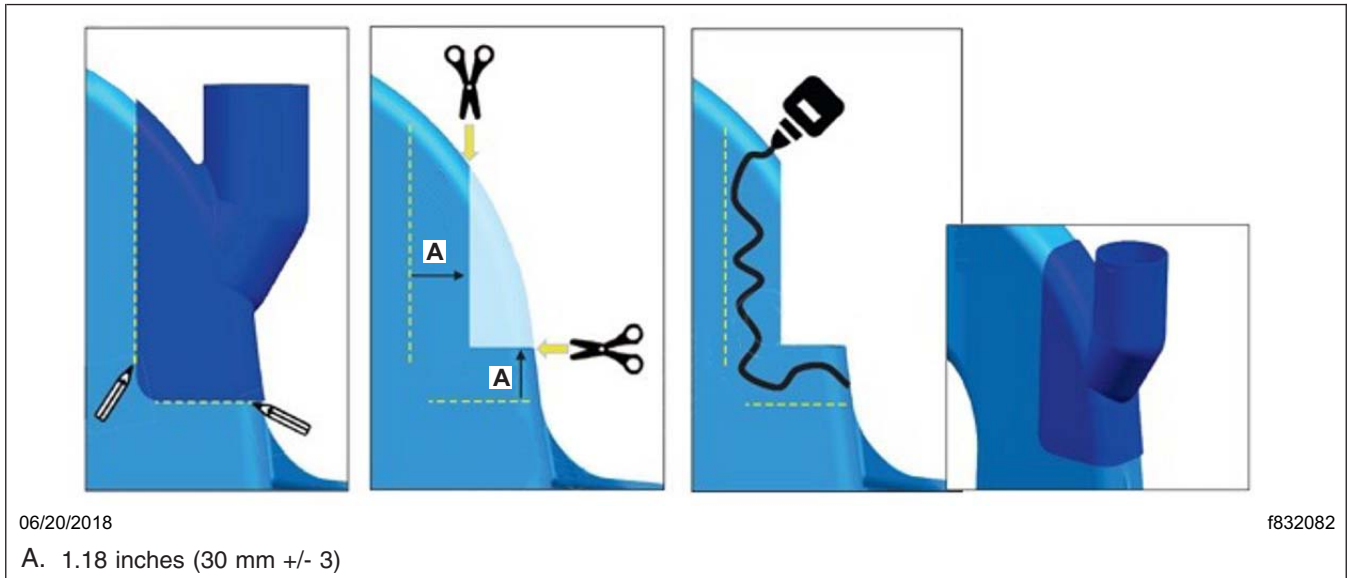

Fig. 4, Attaching the Adapter
4. Attach the adapter to the ducting. See Fig. 4 .